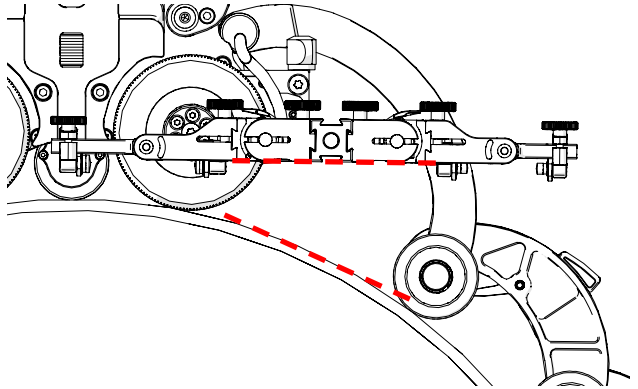

Fig. 170 - Incorrect swivel mount position
13. Proper setup of the frame bar and probe holders is required (Fig. 170).